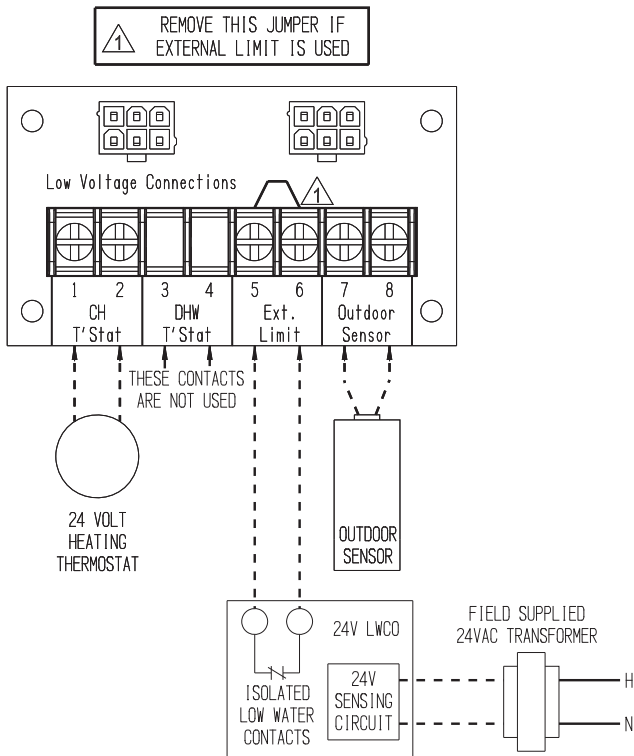

Figure 11.4b: 24 Volt LWCO Field Wiring
- A 24V LWCO may be wired so that its contacts are wired to the external limit connections on the boiler. When this is done a separate transformer must be supplied by the installer to power the LWCO's sensing circuit. This transformer must be completely isolated from the boiler wiring (Fig 11.4b).